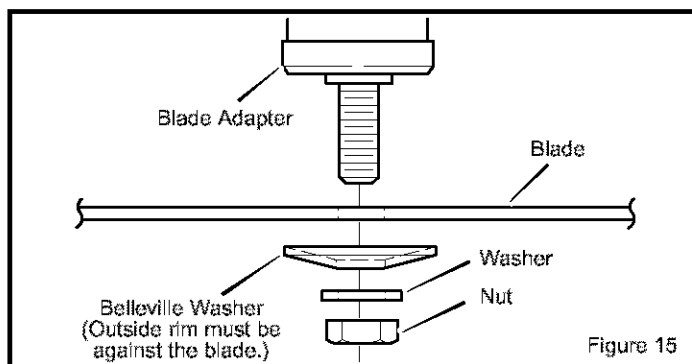

Figure 15
3. Fasten the blade with the original washers and nut. Make sure the outside rim of the Belleville washer is against the blade (Figure 15).